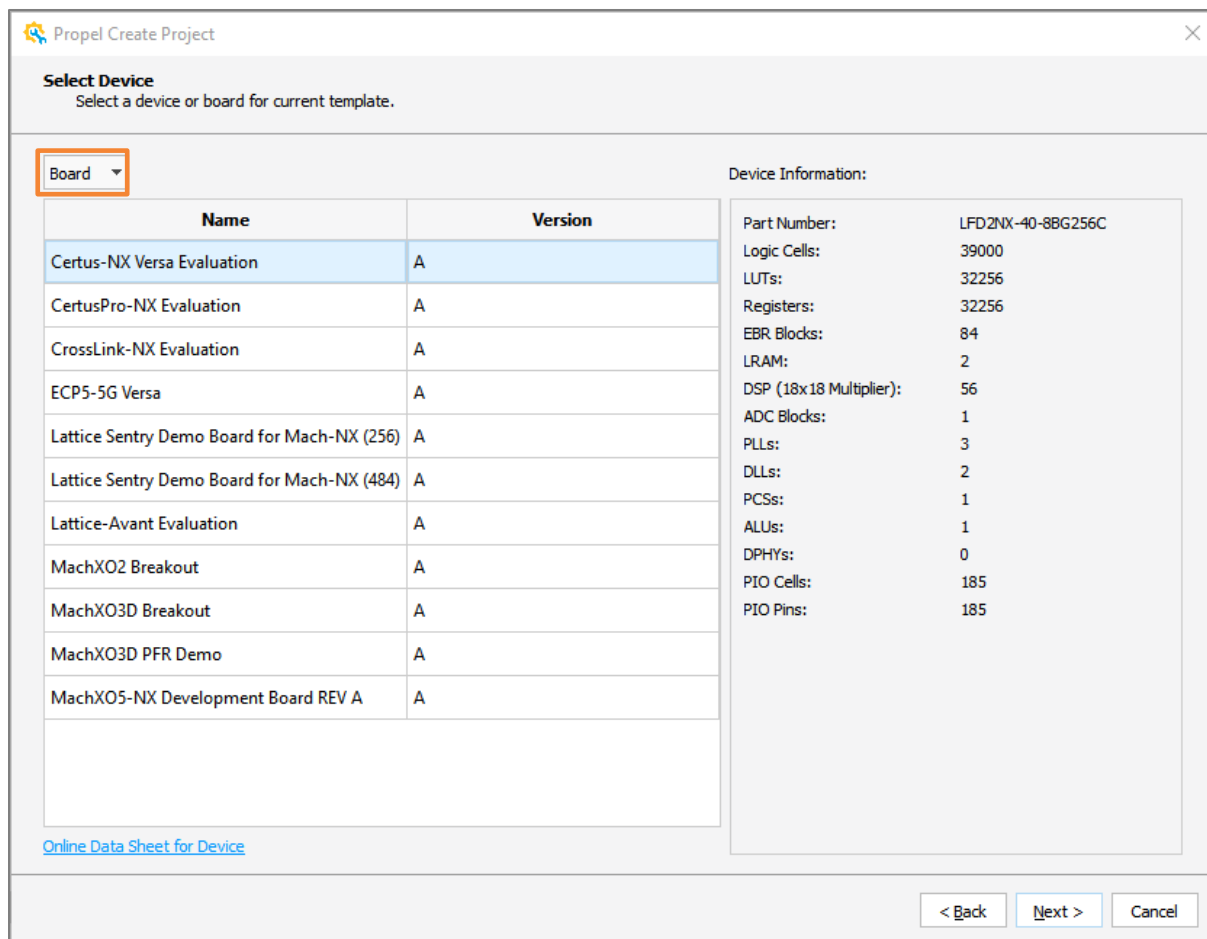

Figure 2.9. New SoC Project – Select Device
6. You can choose **Device/Board** from the following view (Figure 2.9):